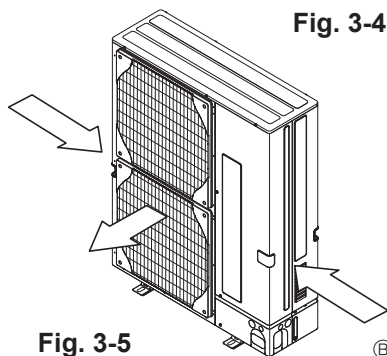

Fig. 3-5
- Position the unit so that the air outlet blows perpendicularly to the seasonal wind direction, if possible. (Fig. 3-5)